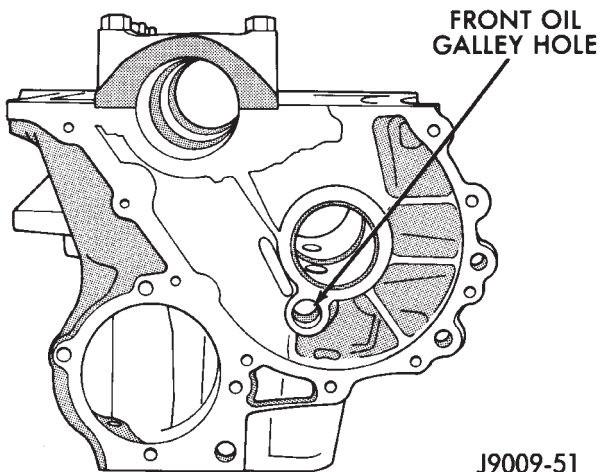
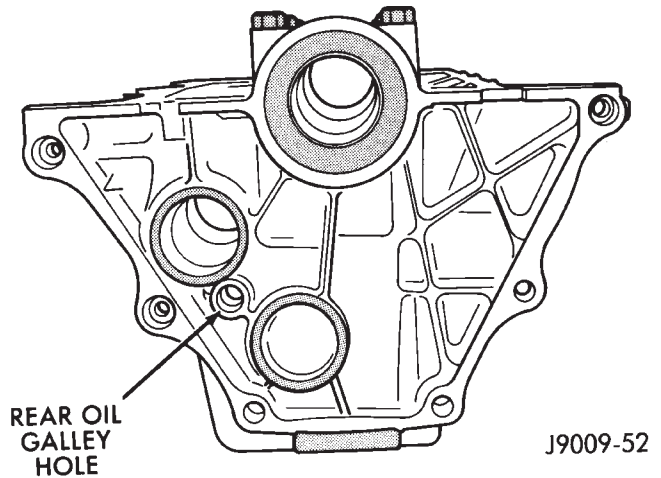

Fig. 73 Front Oil Galley Hole
Fig. 74 Rear Oil Galley Hole
- The front and rear oil galley holes (Fig. 73) (Fig. 74).